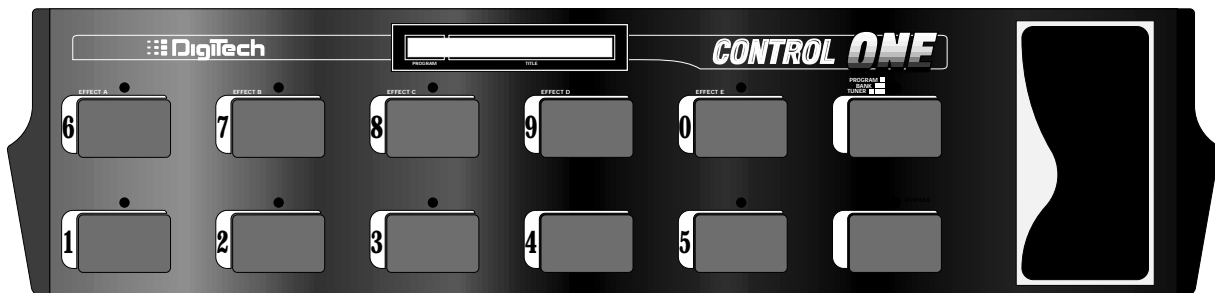

Fig 2-3
**Control One Foot Controller** - DigiTech offers an optional pedalboard designed to get the most out of your GSP-2101 Artist, called the Control One foot controller (see fig 2-3). The Control One features 10 footswitches that can be programmed to select a new program, change banks, or change parameter values. It also includes a built-in Expression Pedal for changing parameters in real-time. The Control One is connected to the Foot Controller Input on the rear of the unit (see figure 2-5).
Figure 2-3 shows an example of two different Algorithms assigned to three Programs. Notice that Algorithm A is assigned to both Programs 1 and 3, while Algorithm B is assigned to Program 2 only. (Using a single Algorithm for more than one Program is common. Because, Programs with the same effects Modules and routings as other Programs are often needed, but with slightly different Parameter settings for each effect.).